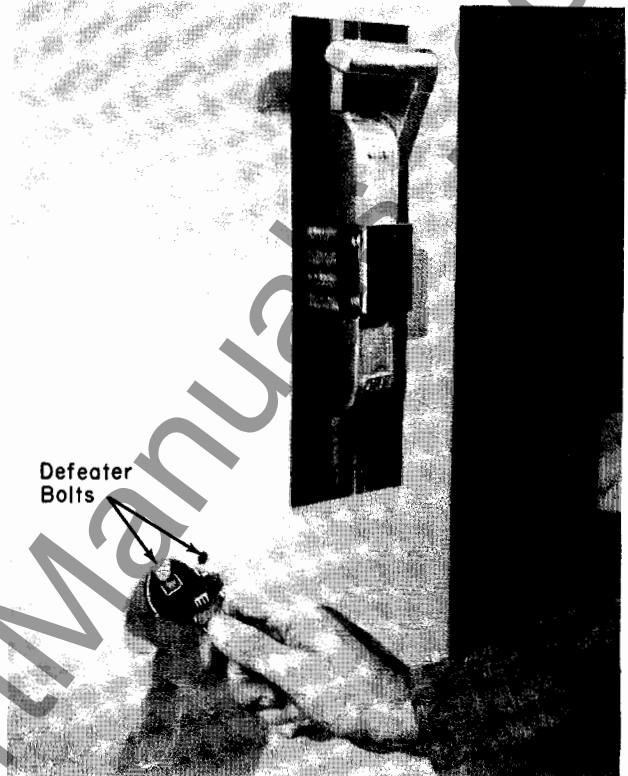

Fig. 86. Interlock defeater bolts.
3. Turn the left-hand bolt 1/4 turn counterclockwise, as shown in Fig. 86. The door may then be opened.